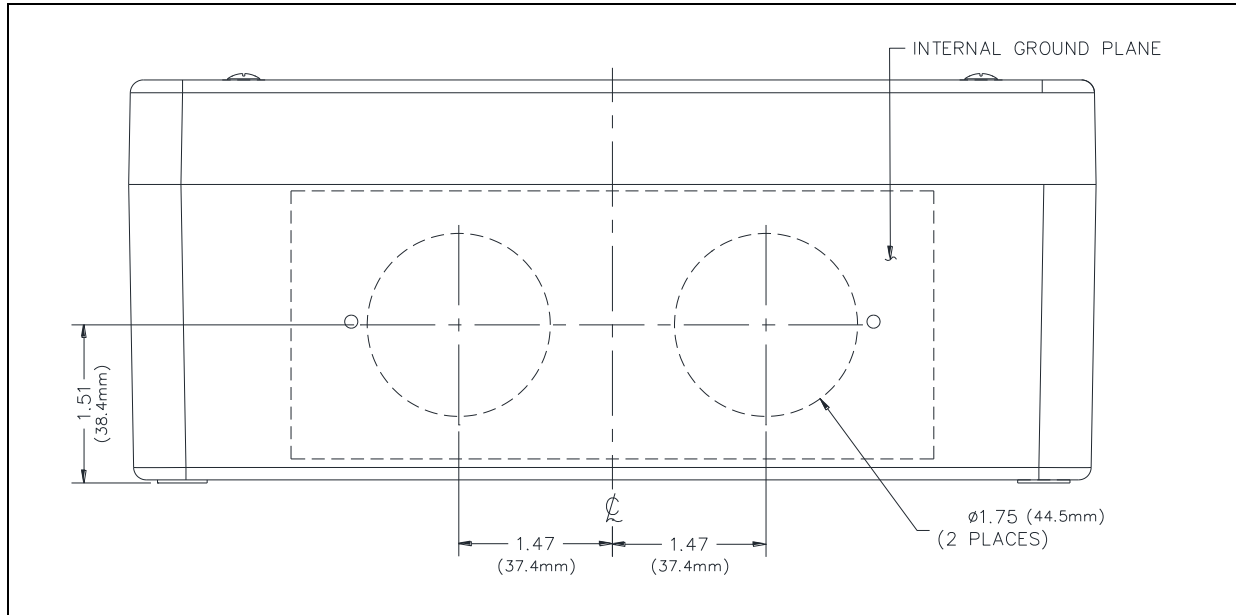

Figure 3. Ground Plate Hole Locations
1. Determine the conduit or cable gland location(s), on the rear enclosure (see Figure 3).